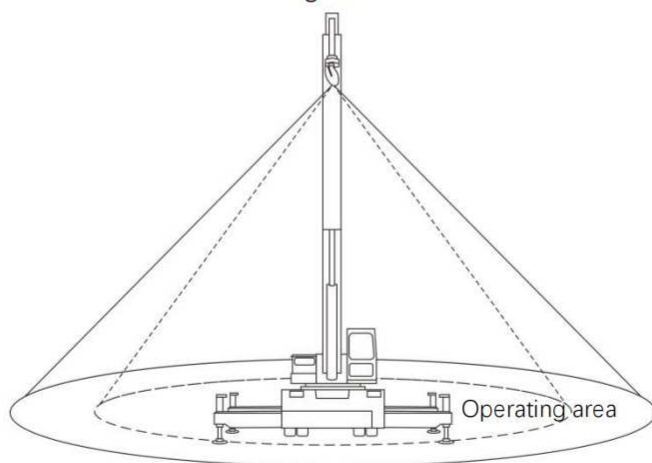

Figure.2
2. Insert the four eye bolts into holes on the top f the machine and then turn them clockwise until they are secured firmly. See the Figure.2 and Figure.3.
- Do not stand within 0.5-1m of the lifting area! During the whole lifting process, no one is allowed to stand under the boom or the work station. See the figure.2.